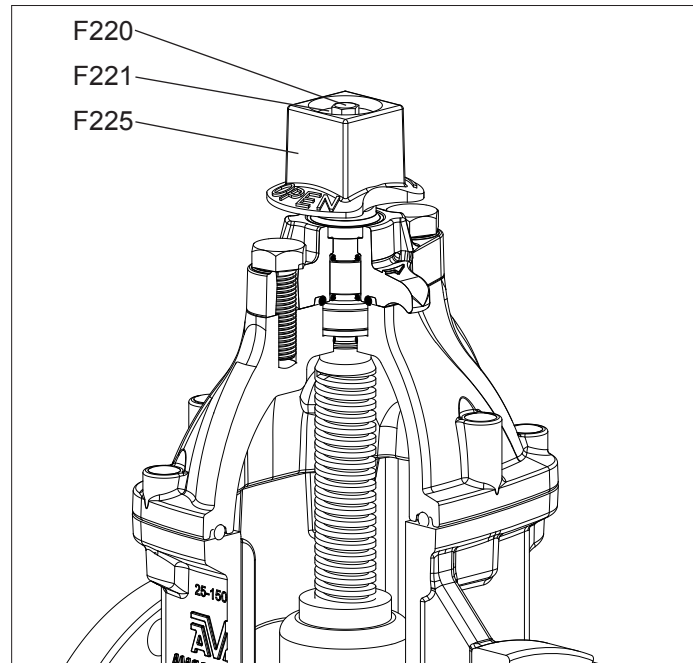
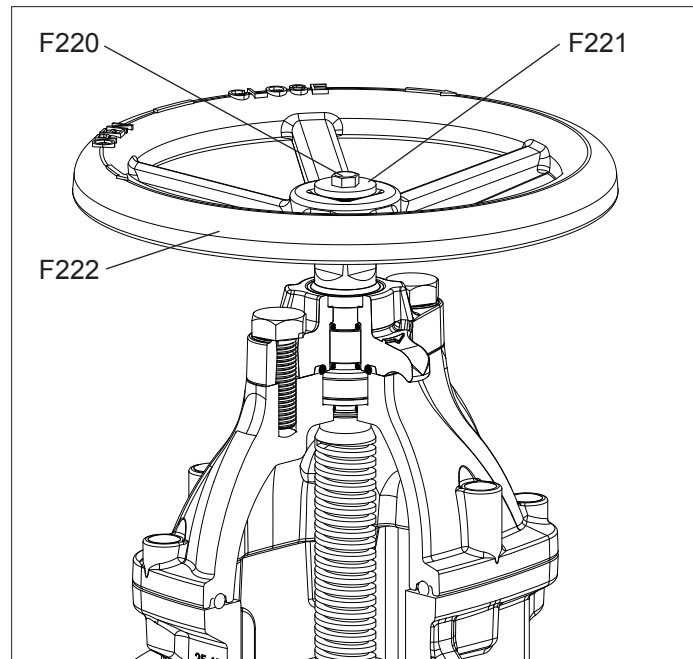

Fig. 3A
Fig. 3B
1. Remove the Wrench Nut/ Handwheel Bolt (F220) and Wrench Nut/Handwheel Washer (F221) using a 1/2", (13mm) wrench, for 2 1/2" to 4" valve sizes, and 11/16", (17mm) wrench for 6" to 12" valve sizes. Remove the Wrench Nut (F225) or NRS Handwheel (F222), and replace with a new one. (See Fig.3A, and Fig.3B)